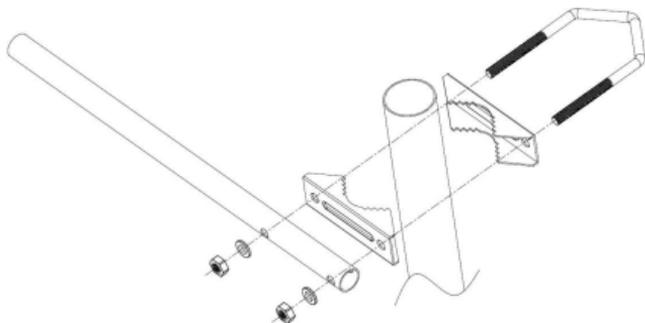

Figure 10
- Install the U-bolts set and crossbar (both not included) on a vertical pole as shown on Figure 10 and 11: